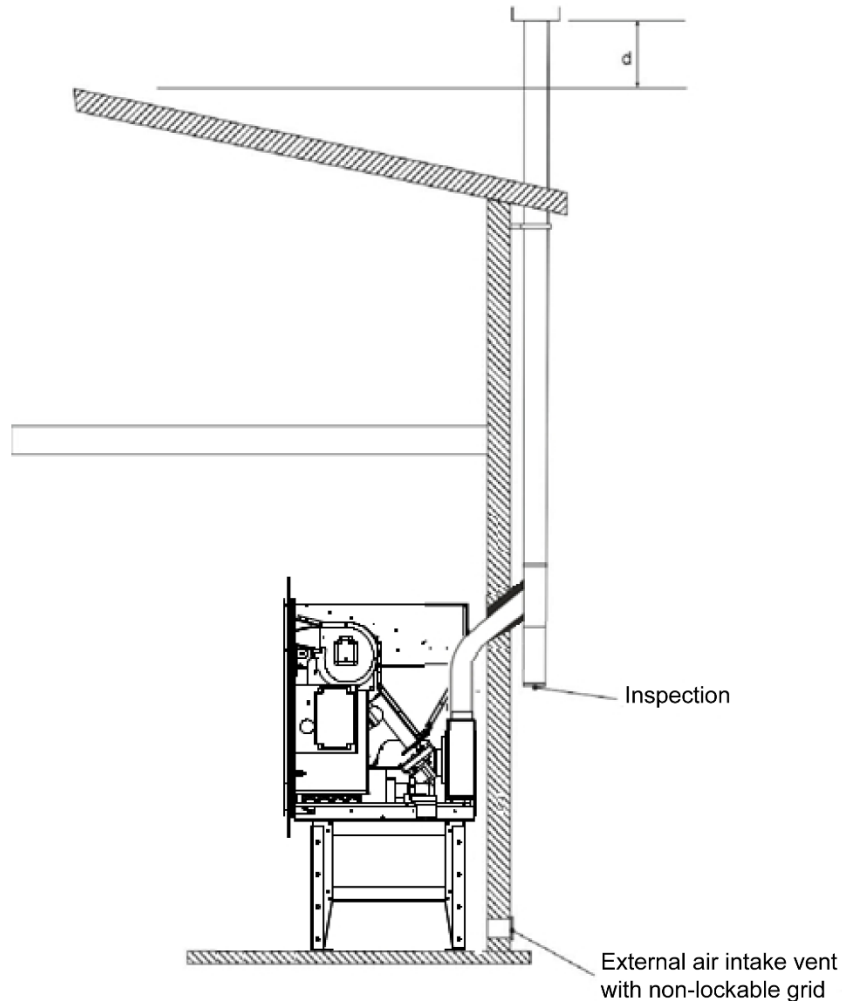

Fig. 5
- Only insulated tubes (**double wall**) in stainless steel, secured to the building (*Fig.5*) should be used.